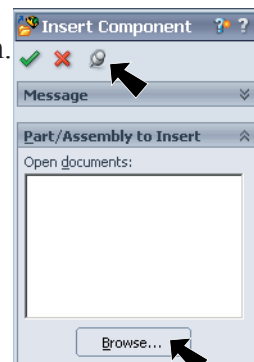

Fig. 27
Step 3. Click **Keep Visible**  in the Property Manager, **Fig. 27**.
Step 4. Click **Browse** in the Property Manager, **Fig. 27**.